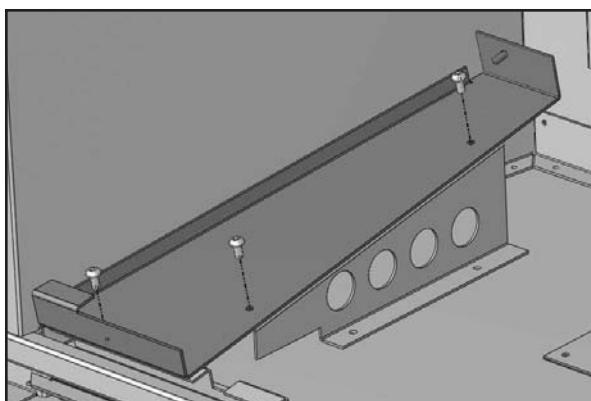

Figure 100: Installing Left Burner Cover Support.
7. Install the Left Burner Cover Support as shown in Figure 100. This bracket is installed using three (3) T-20 Torx screws supplied. Install the Right Burner Cover Support Right as you've done on the left side.